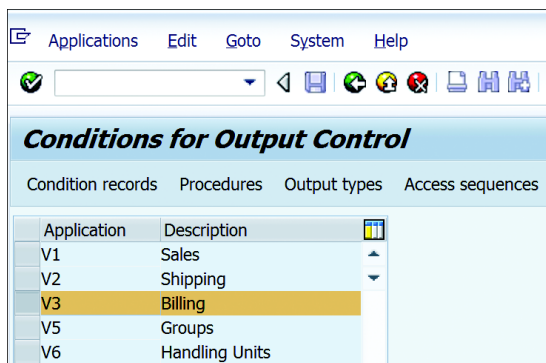

Figure 18.27 Output Types
1. In Transaction NACE, select the application area and click on the `OUTPUT TYPES` button in the toolbar (see Figure 18.27) to display all the output types available for the application area.